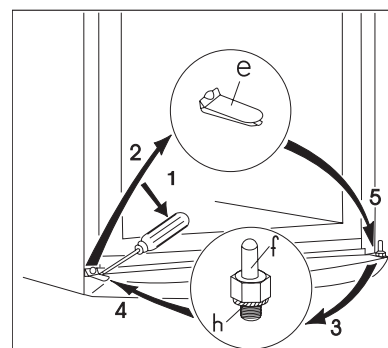

fig. 4.
8. Remove the insert of the plinth (e) by a screwdriver. (fig. 4)
9. Unmount the lower hinge pin (f) and its washer (h) and mount them on the other side. (fig. 4)
17. Fit the freezer door to the lower door hinge pin (f). (fig. 4)